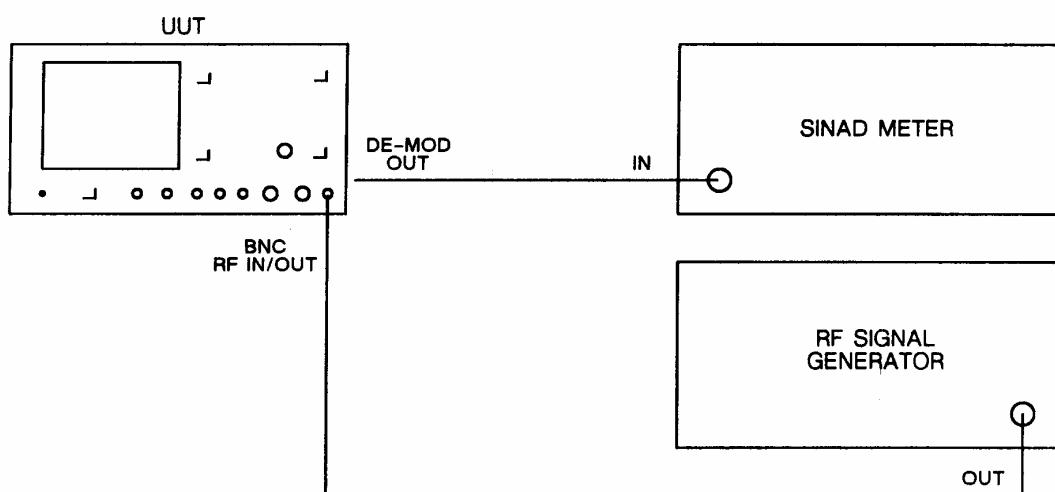

Fig. 5-1-27 Test equipment connections for 2955R sensitive receiver sensitivity check
- (1) Connect the signal generator RF output to the RF IN/OUT BNC socket. Connect the SINAD meter input to the DE-MOD OUT socket. See Fig. 5-1-27.